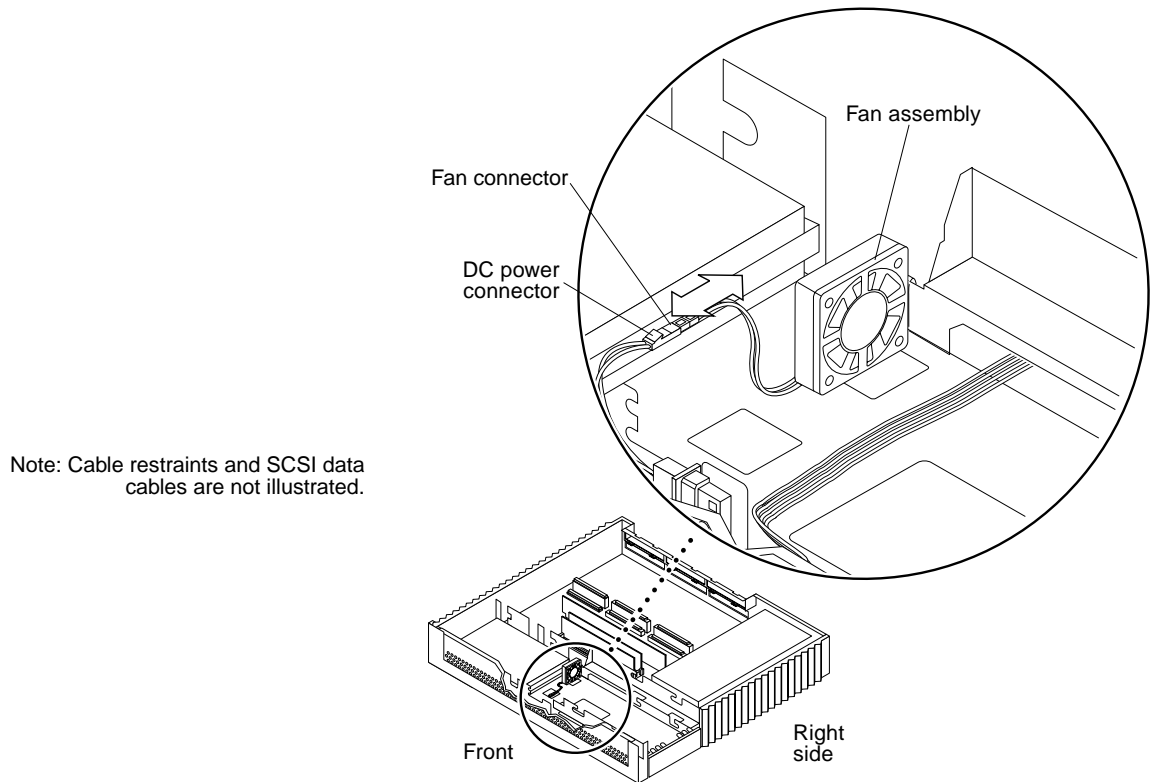

FIGURE 8-15 Connecting the Fan Assembly DC Power Connector
- 4. Connect the fan assembly power connector to the two-pin fan DC power connector (FIGURE 8-15).**
- 5. Secure the fan DC harness beneath the cable restraint (FIGURE 8-15).**